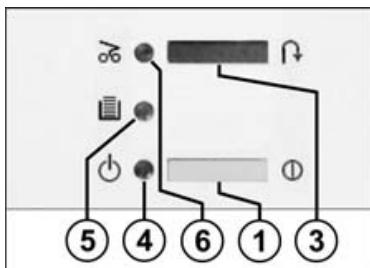

fig. 1
- 1 = Pushbutton switch „ready“ (fig. 1)
(fig. 1)
- 4 = Pilot lamp "ready" (fig. 1)
- 5 = Pilot lamp "receptacle full" / "door open" (fig. 1)
- 6 = Pilot lamp "paper jam" (fig. 1)
- Turn machine on with pushbutton switch (1) (fig. 1). Pilot lamp lights up (4) (fig. 1).
- Place empty sack into receptacle and close door. The pilot lamp (5) (fig. 1) goes off.